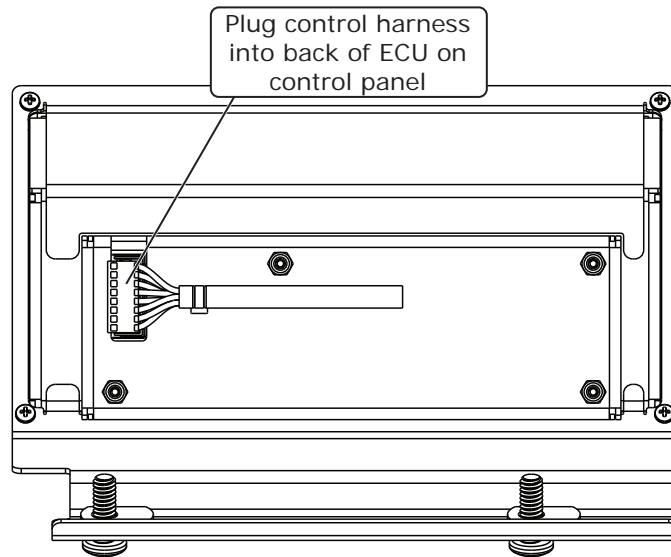

Figure 5
4. Plug the control harness into the back of the ECU on the control panel as shown in Figure 5, below.